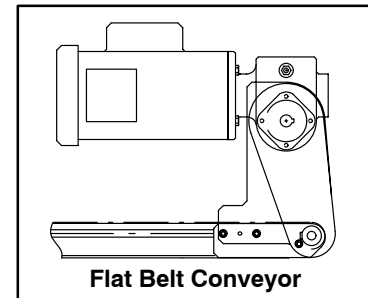
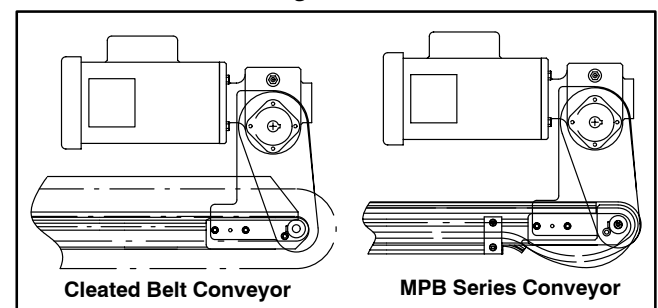

Figure 2
Figure 3
Gearmotors must be mounted as shown in Figures 2 and 3.
**NOTE:** Gearmotor position on Flat Belt conveyors shown in Figure 2. Gearmotor position on Cleated Belt and MPB Series conveyors shown in Figure 3.